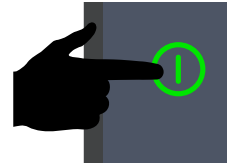

Figure 146. Start Button
7. Press the **Start button** (Figure 146).